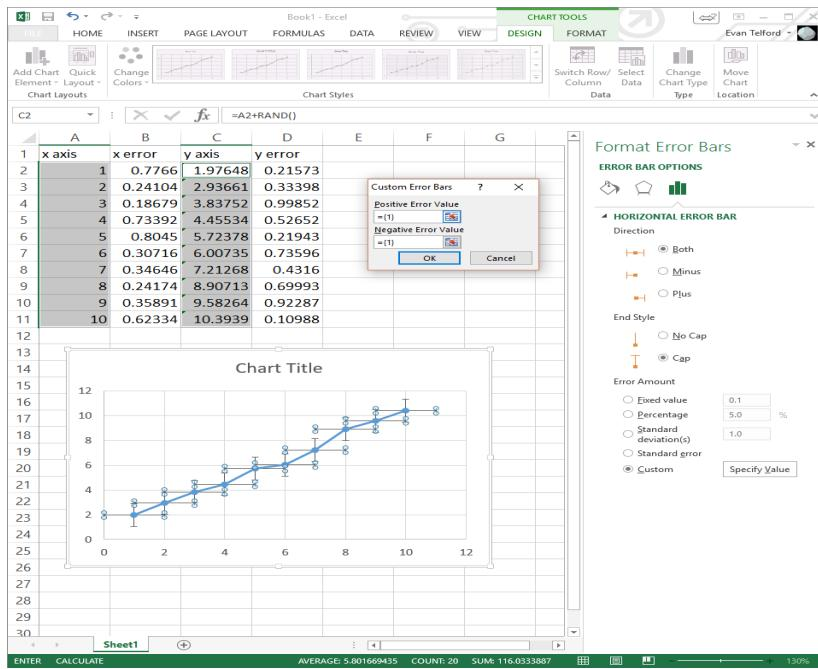

Figure 3: Using your own data set to create x and y error bars in excel.
6. It should now prompt you for positive error values and negative error values. Delete "{1}" from the two boxes, and select your error bars using the cursor. Your chart will now have the correct error bars (see figure 3).